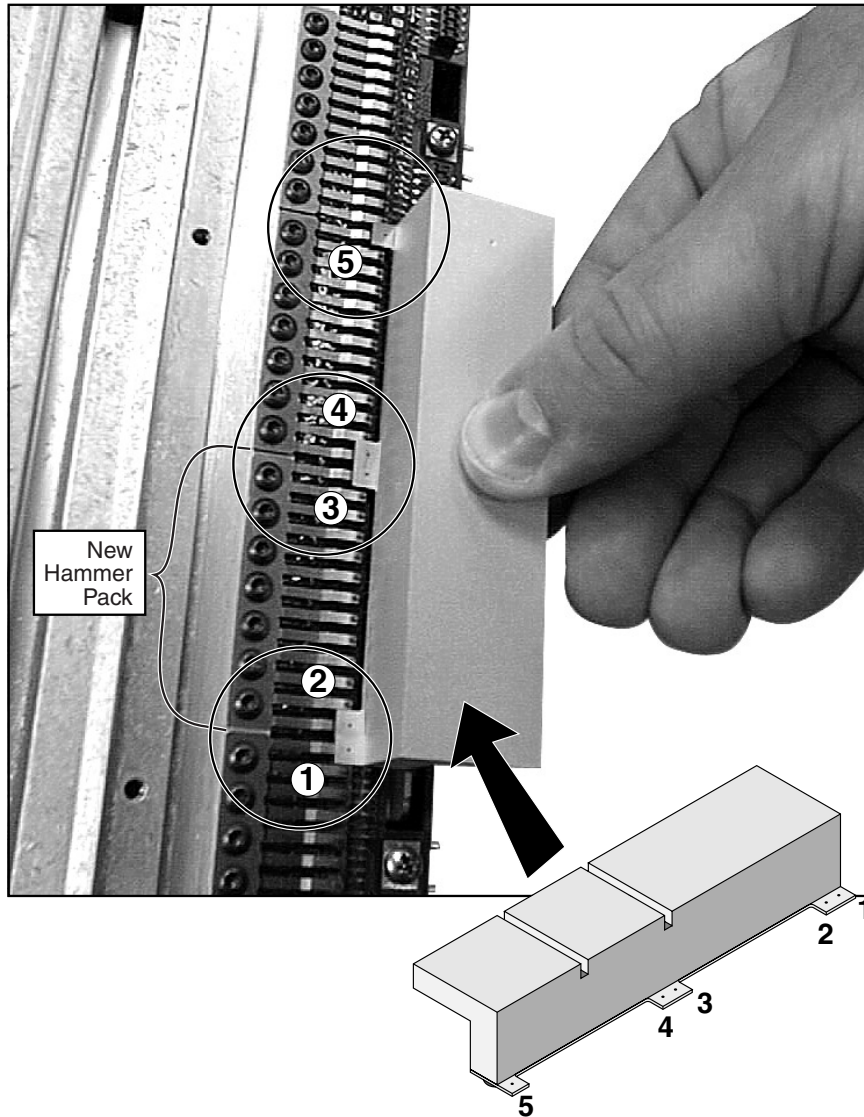

Figure 16. Aligning the new hammer pack.
- Step 7. Use the Hammer Alignment tool to align the impact elements of the new hammer (holes 2 and 3) with the impact elements of the neighboring hammers (holes 1, 4, and 5). Wiggle the tool slightly until it snaps onto the impact elements. See Figure 16.